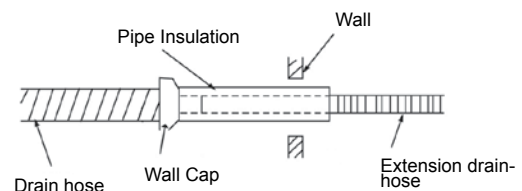

Fig. 13
- B. When extending the drain hose, with locally purchased hose, insulate the connection with armaxflex or similar pipe insulation material. (Fig. 13)